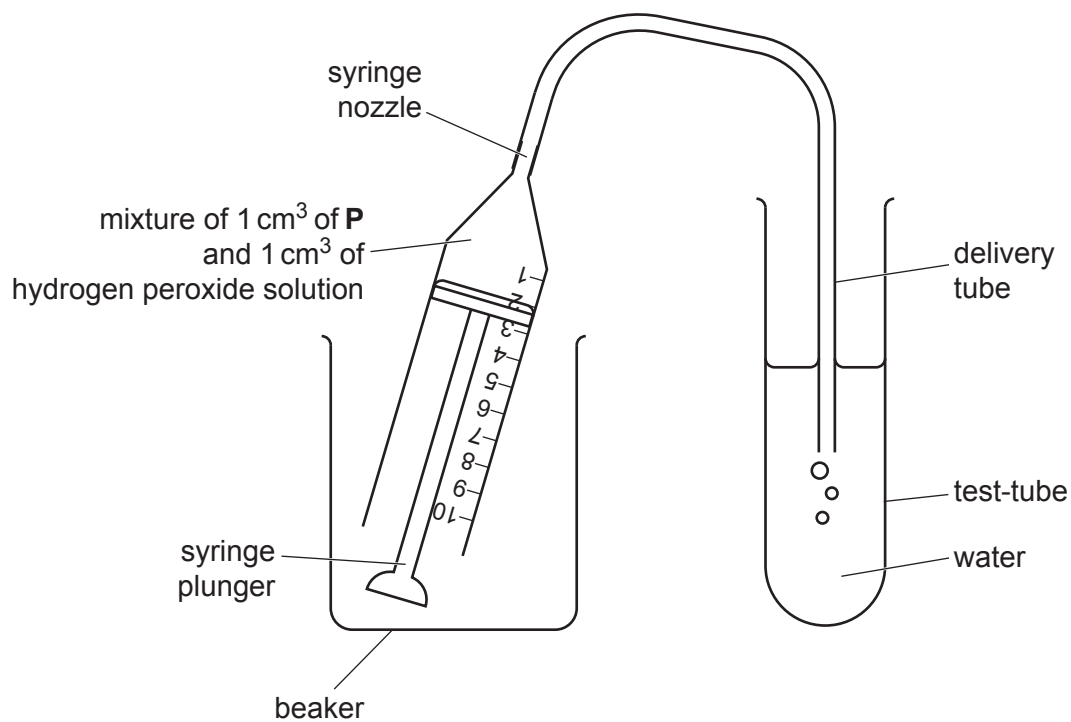

Fig. 1.4
11. Put the syringe into a beaker as shown in Fig. 1.4.
12. Put the end of the delivery tube into the test-tube as shown in Fig. 1.4.